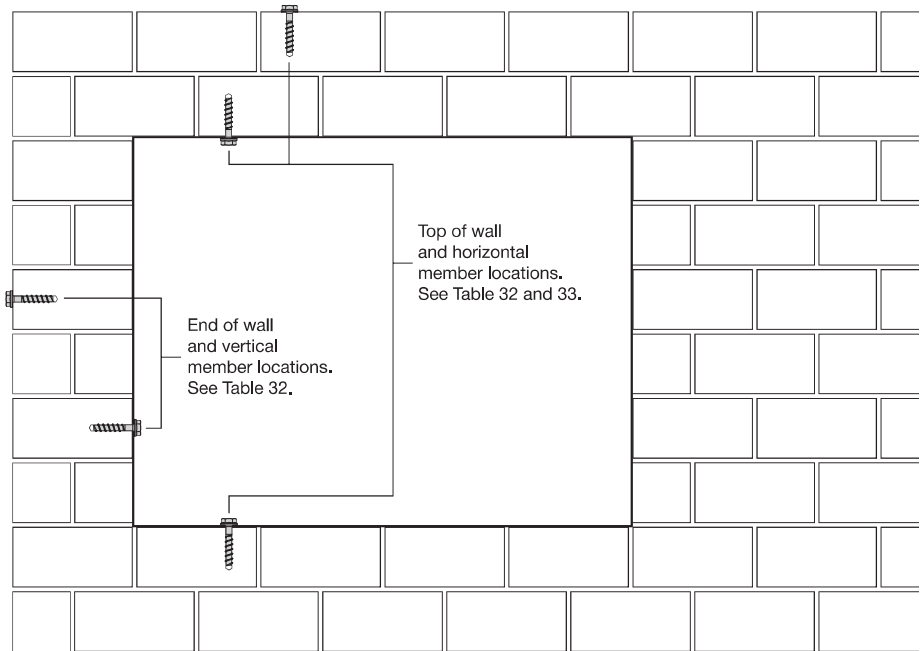

Figure 7 — Anchor locations in end of wall or wall opening applications
- 2 See figure 6 and 7 for allowable anchor installation locations on the top of grout-filled concrete masonry walls. Anchors may not be installed within one inch of a vertical joint. See figure 7 for anchor installation locations in end-of-wall and vertical members of wall openings.